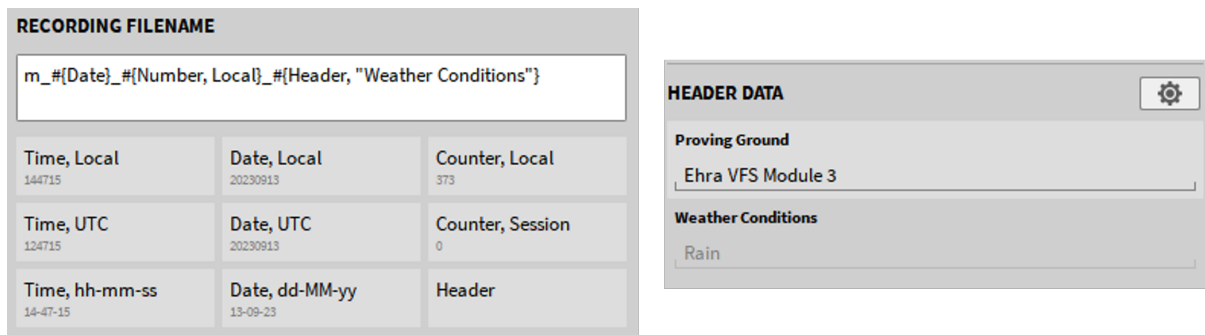

Fig. 6.2: Filename with header in formula
**Note:** The header title must be written manually in the formula, which creates the data name. This file name formula cannot be changed during recording, see Fig. 6.2.